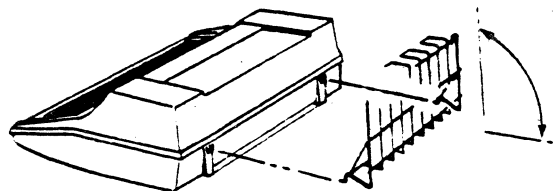

Figure 3
4. Insert basket hooks into slotted holes in rear of printer and rotate down into rest position (see Figure 3).